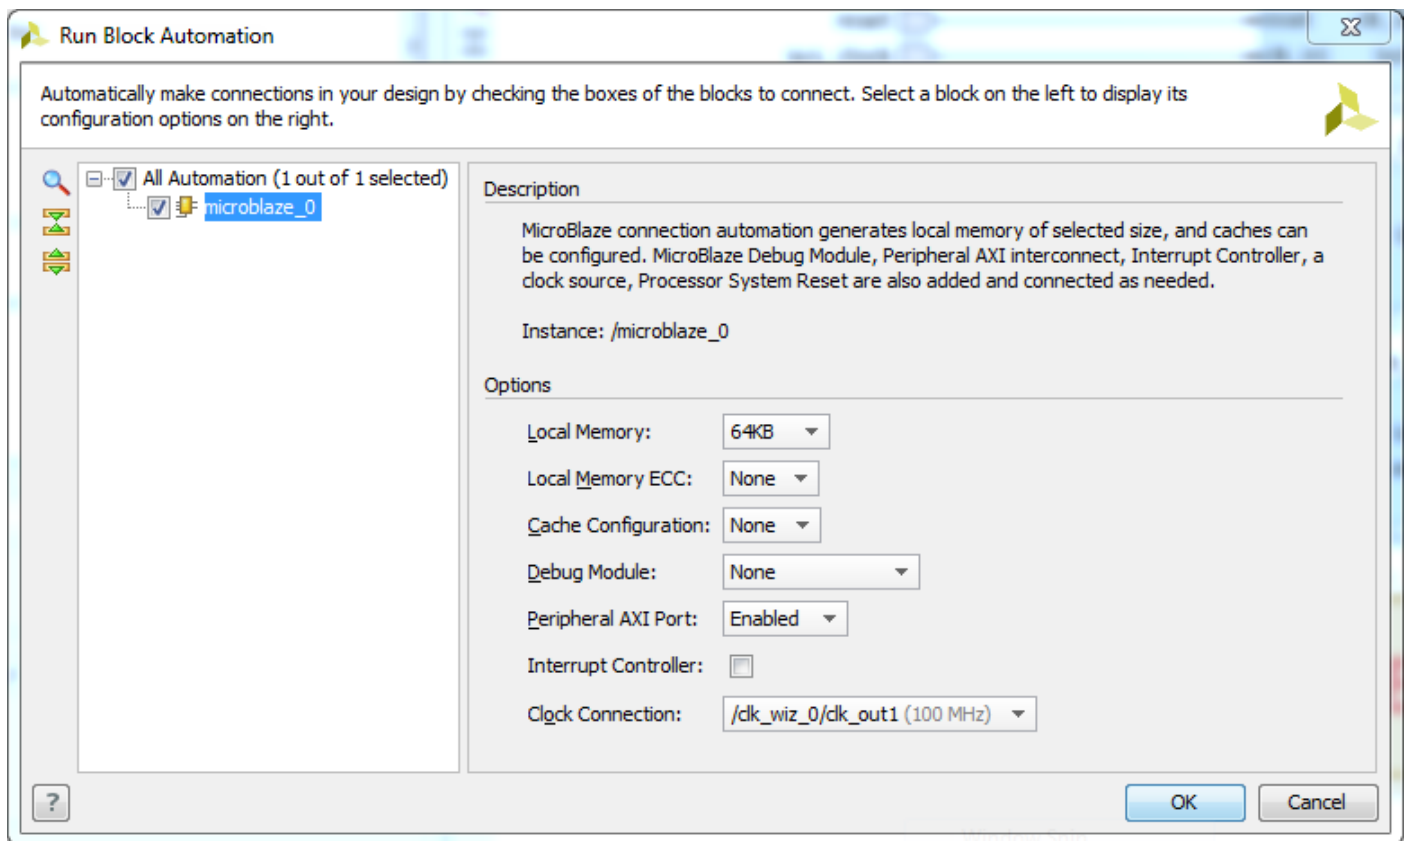

Figure 12: Run Block Automation Dialog Box
- The Block Automation dialog box opens as shown in Figure 12. Here we recommend you set the following parameters (for your MicroBlaze processor):